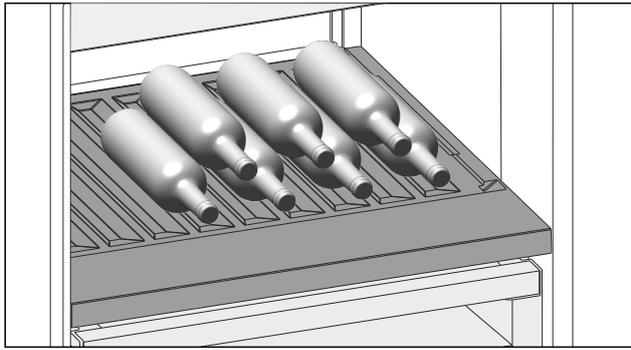

Fig. 121
- ▶ Place bottles in the back row with their bases against the back wall. (see Fig. 121)